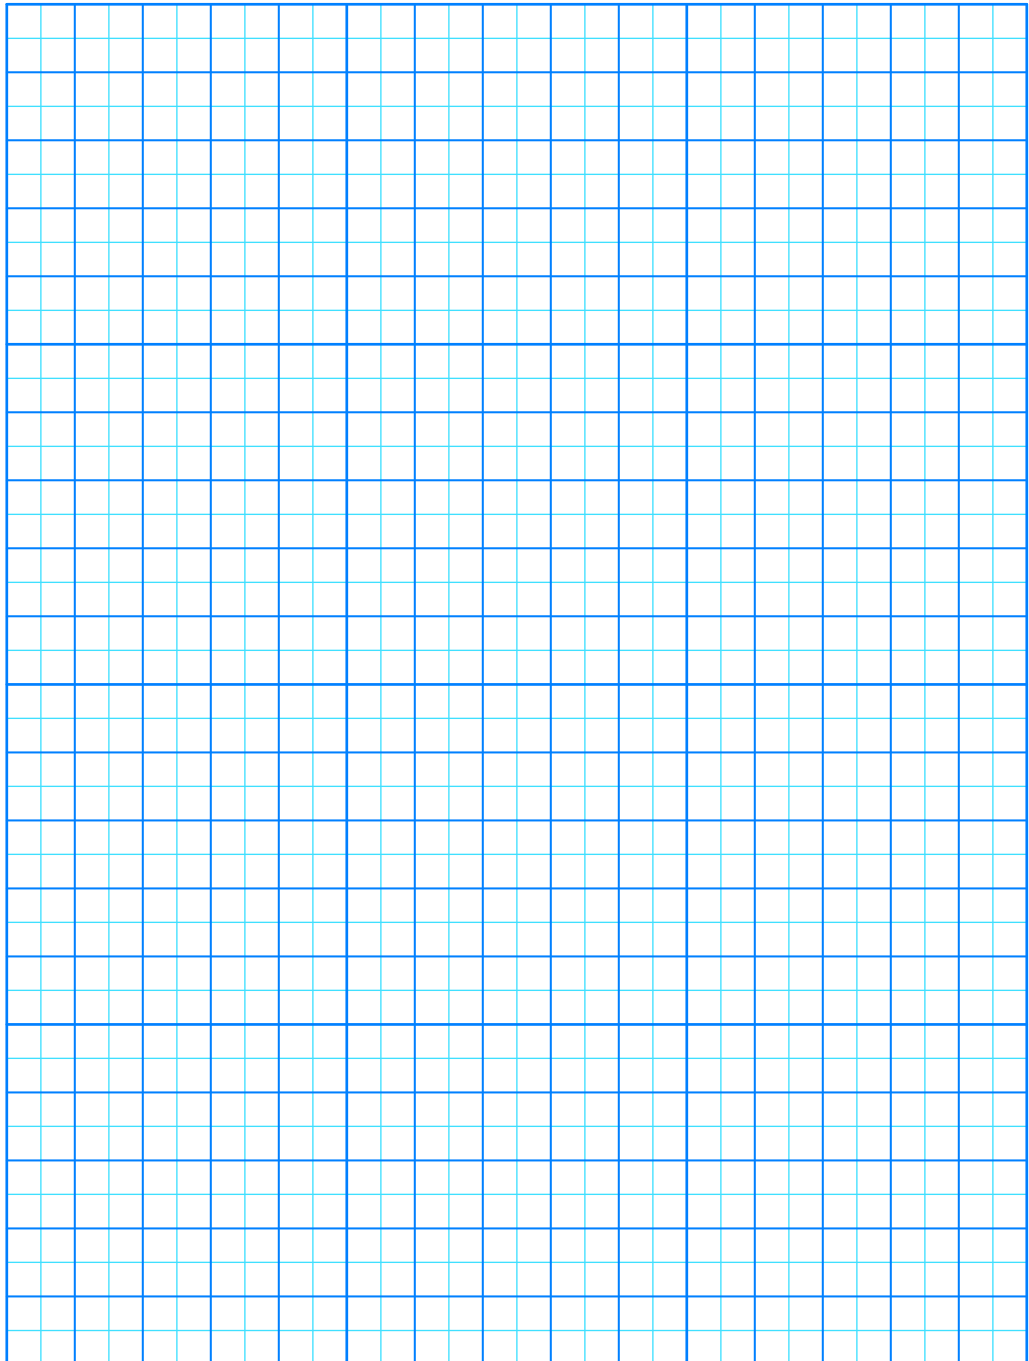

FIGURE 4-4. Enzyme reaction rate for different concentration of H₂O₂.
8. Construct a graph to illustrate your results showing reaction rate as a function of substrate concentration. **Complete the plot (Figure 4-4) with proper labeling.**